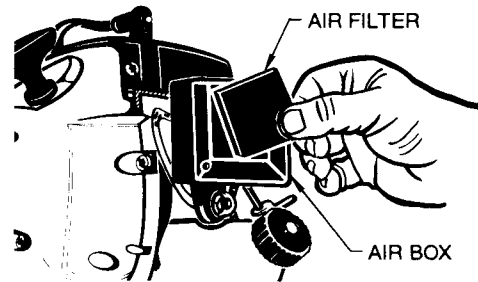

Figure 8-4B
2. Lift filter from Air Box. (Figure 8-4B)